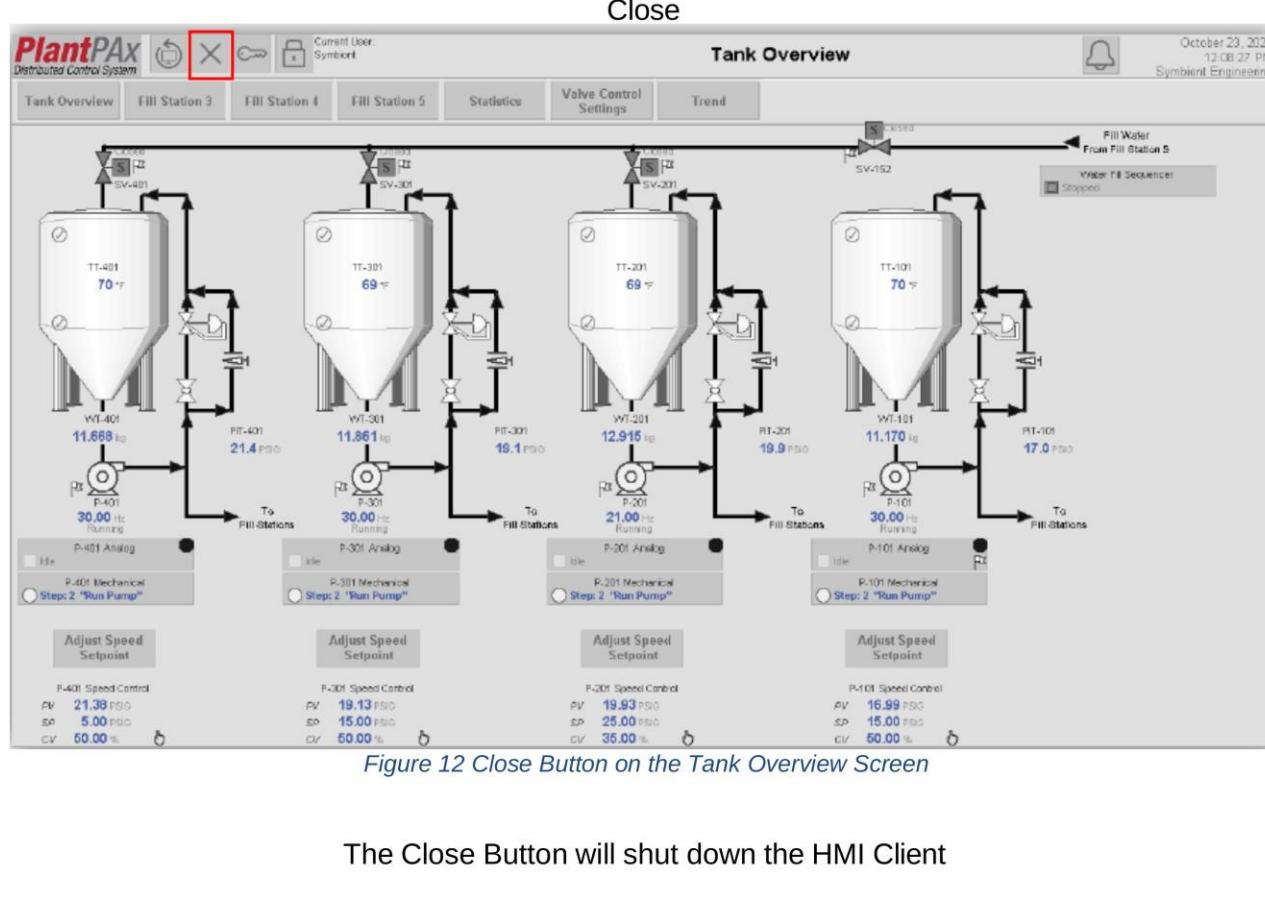

Figure 12 Close Button on the Tank Overview Screen
The image (Figure 12) shows a screenshot of a PlantPAx Distributed Control System (DCS) interface, specifically the "Tank Overview" screen. The interface displays the status and control settings for four tanks, labeled TT-401, TT-301, TT-201, and TT-101. Each tank has associated parameters such as temperature (in degrees Fahrenheit), pressure (in PSIG), and flow rates (in GPM).
4. Adjust Speed Setpoint: Each tank has a section for adjusting the speed setpoint of the associated pump, with current values (PV) and setpoints (SP) displayed in PSIG.
6. Close Button: The red "X" button at the top left corner is labeled as "Figure 12 Close Button on the Tank Overview Screen," indicating its function to close the current screen.